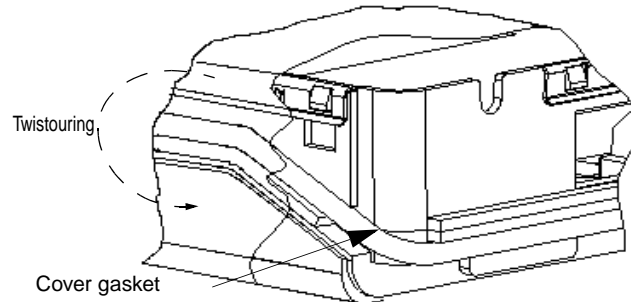

Figure 5-18. Cover Gasket Location
2. Place a new cover gasket around the chassis ensuring that it is placed under the locking tabs and ledge at the front of the chassis (See Figure 5-18.). To ensure that the gasket remains seated along the groove, twist the gasket between fingers down and toward the chassis on both sides of the chassis.